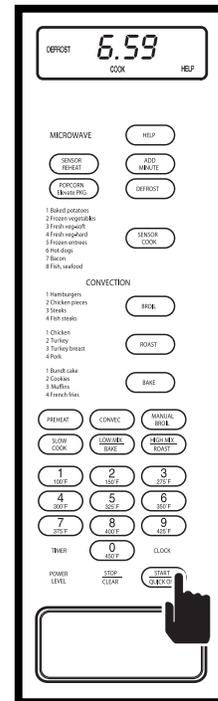

Figure 3-54.
4. Press QUICK ON/START key to start the auto defrost process and the display will show the time as it counts down along with the word “DEFROST “ (See Figure 3-54).